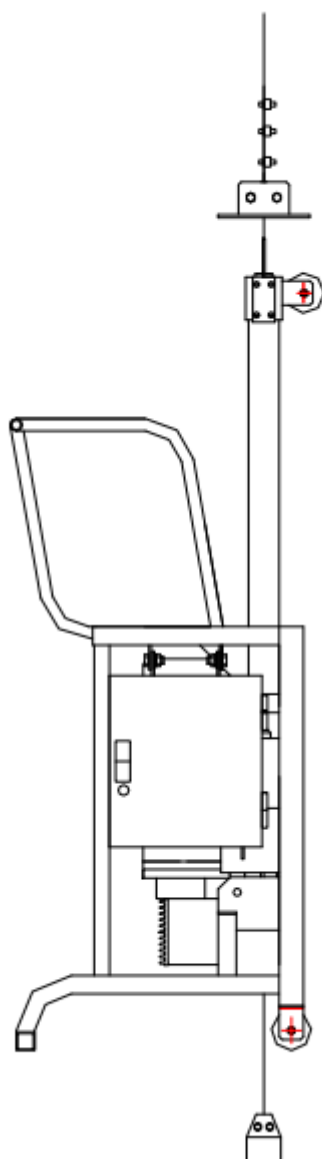
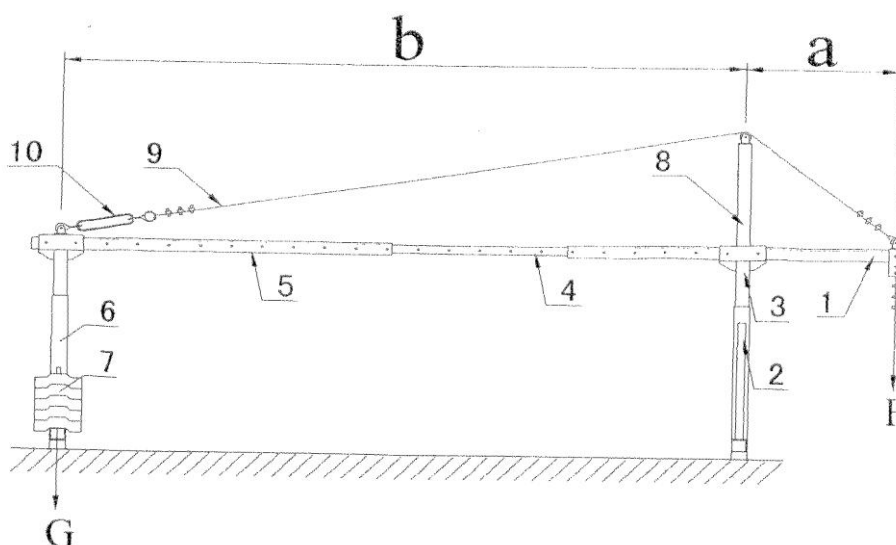

Figure 1: Suspended Chair
Figure 2: Suspension Mechanism
3.1.1 The suspension mechanism (see figure 2 as below) consists of front beam (1), middle beam (4), rear beam (5), front base (2), rear base (6), upper column (8), tommy bar (3), counter weight (7) and reinforce steel rope (9) etc. The tommy bar is mounted on the front and rear base; the front and rear beams will be fixed through the tommy bar, the middle beam is fixed between the front and rear beam. The upper column is mounted on the tommy bar for fixing the reinforced steel rope and counter weight will be placed on the rear base. For details of structure, see attached figure 1: suspension mechanism.
See attached figure 1: suspension mechanism and use the special installing tool — pinch bar if necessary.